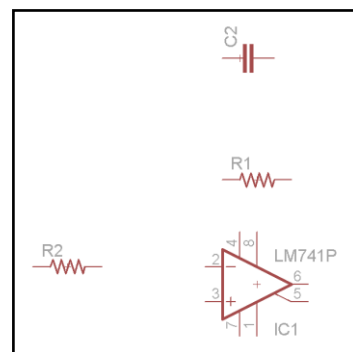

Figure 2: Basic part placement.
3. At this point the schematic should look like Figure 2.